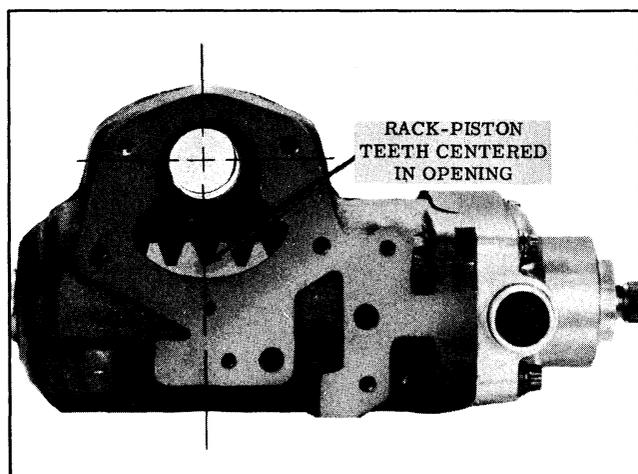

Fig. 5-64 Centering Rack-Piston Teeth
10. Turn coupling flange so that rack-piston teeth are centered in the pitman shaft cover opening in the housing. Make sure that rack-piston teeth are square with center line of pitman shaft bushing. (See Fig. 5-64)